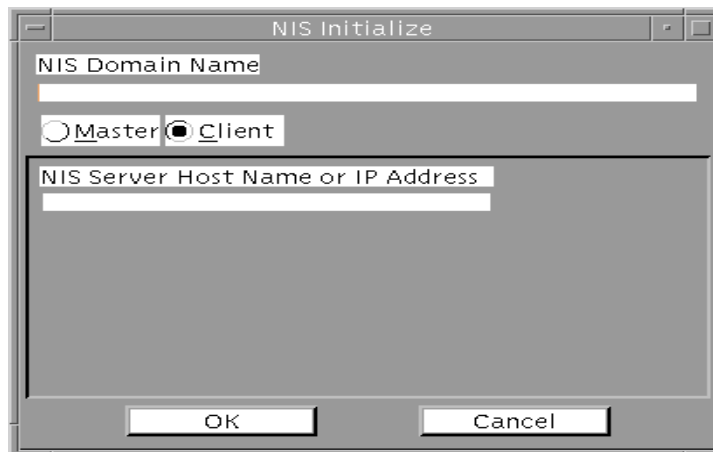

Figure 38. NIS Initialize (Client) Window
- STEP 3: **Enter the NIS domain name.** A `NIS Initialize` window appears (Figure 38). In the `NIS Domain Name` field, enter the name of the domain that will include the master and client machines.
- STEP 4: **Set the machine as the client.** In the `NIS Initialize` window, click the knob for `Client` to designate your workstation as a NIS client. The `NIS Server Host Name or IP Address` field appears (Figure 38).